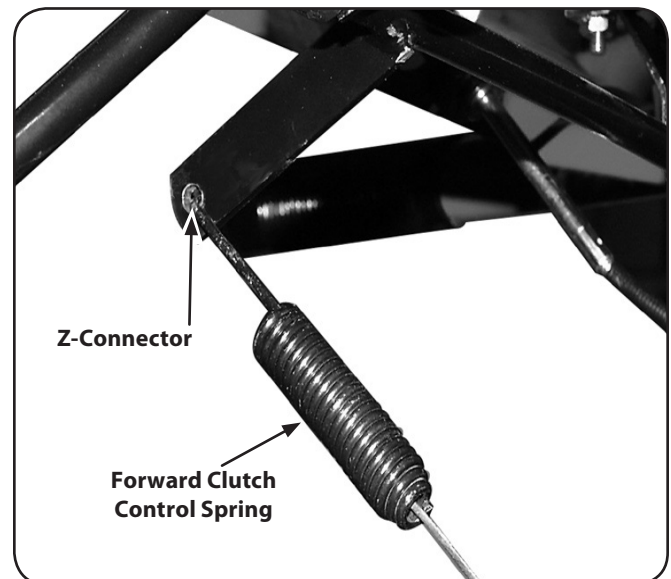

Figure 3-7
2. The forward clutch control cable (with attached spring) is hanging loosely near the right-side wheel. Being careful not to kink or stretch the cable, insert the z-connector into the hole at the end of the forward clutch control linkage. See Figure 3-7.